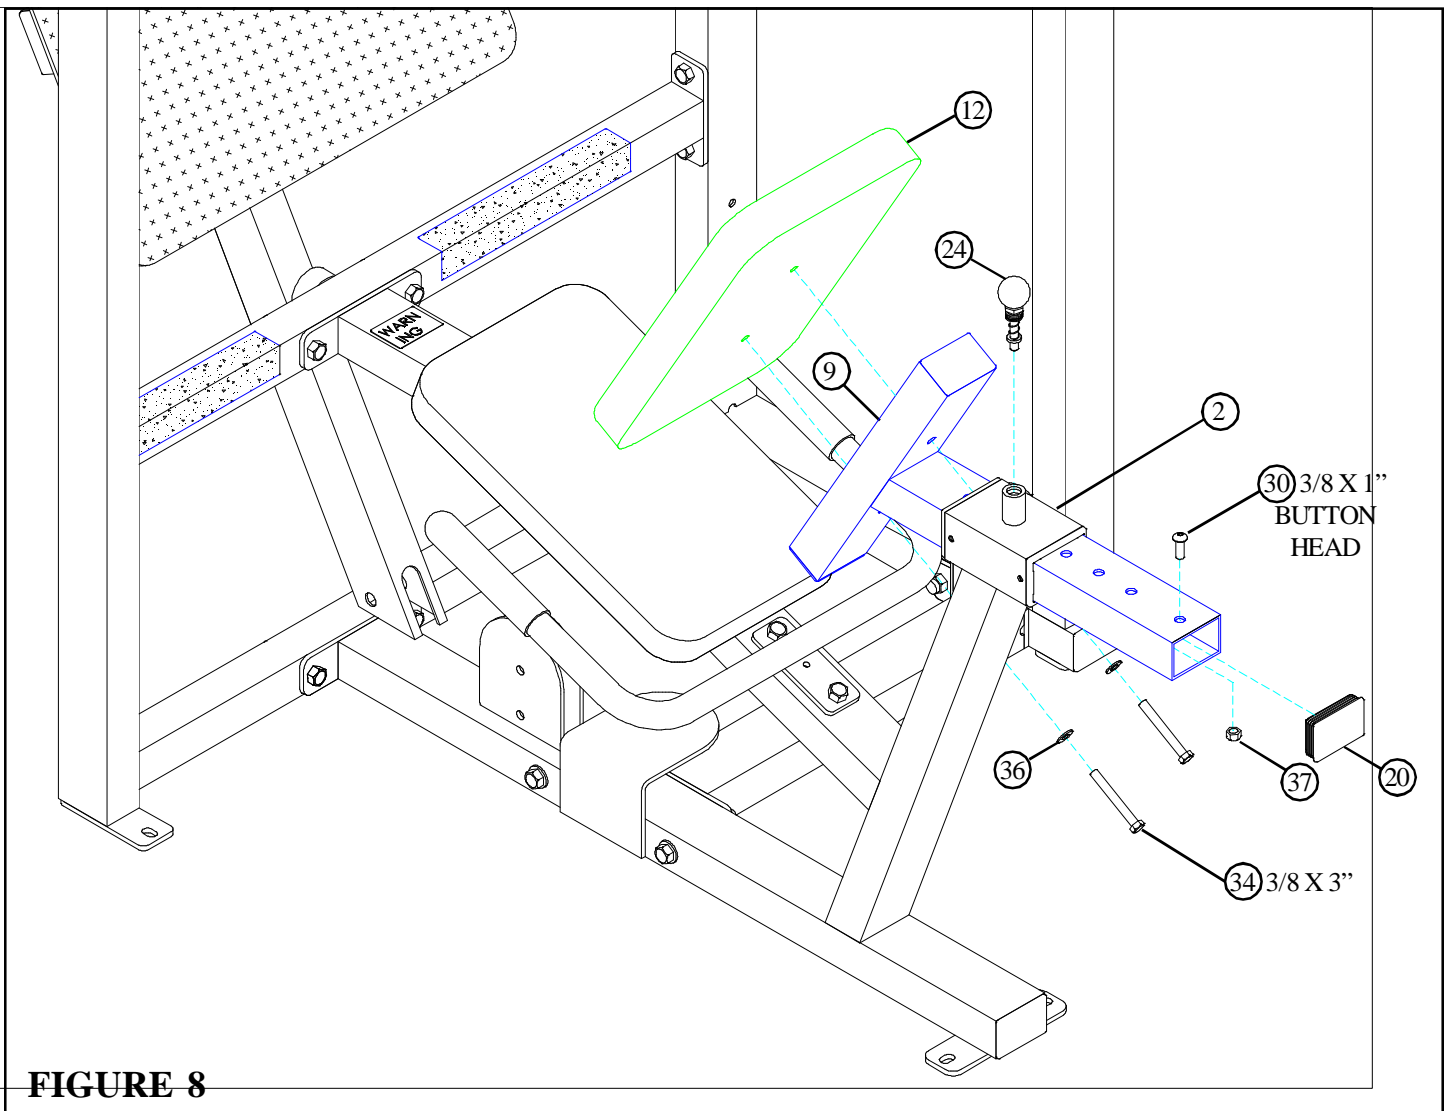

**FIGURE 7**
- **SECURELY** assemble one PAD (12) to the FRAME (2) using two 3/8 X 3" BOLTS (34) and two 3/8" WASHERS (36) as shown in FIGURE 7.